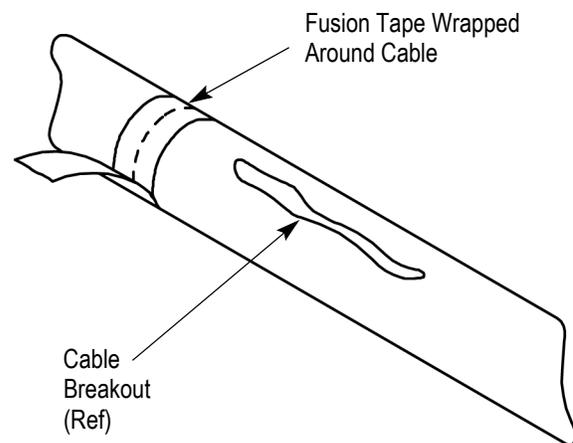

Figure 2
2. Wrap tape once around insulated area; then again, overlapping the tape onto itself, using minimal stretch. The tape will stick only to itself. See Figure 2.